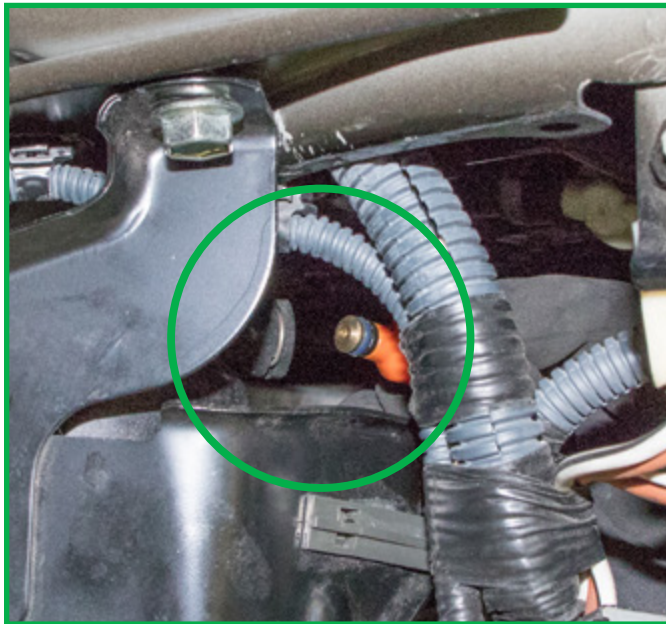

FIGURE 4
6. Remove the air line from the dryer. (Figure 4)